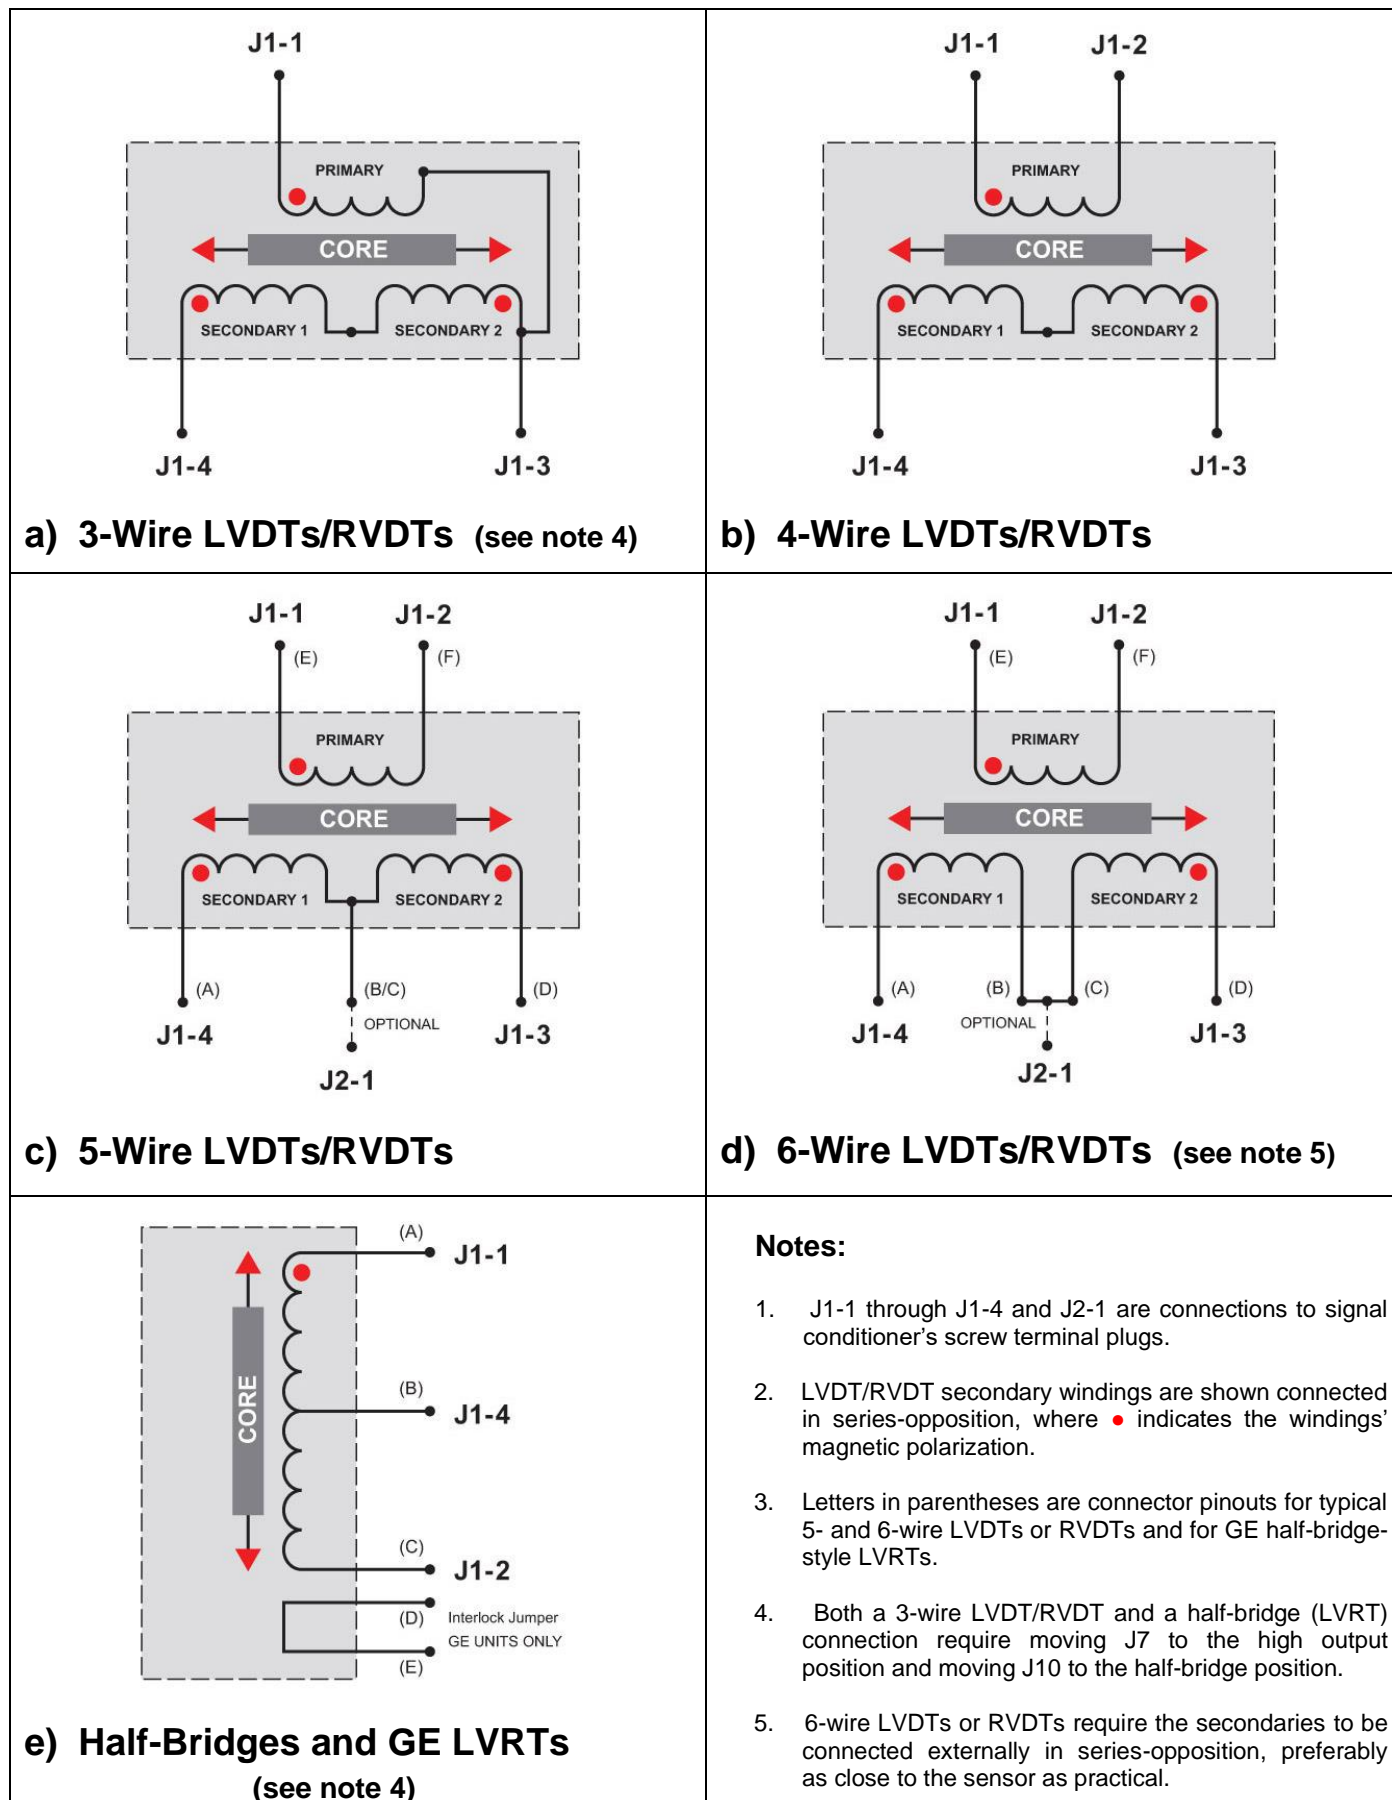

Figure 4 LVDT or RVDT and Half-Bridge (LVRT) Wiring Connections to SC-200 Signal Conditioner
4. Make the I/O connections: Following the connections on the right side label or in Table 3 on page 3, and the schematics of Figure 4 on page 4, connect the color-coded screw-terminal plugs at least to the LVDT's primary and secondaries (and the secondaries' junction point if needed), to DC power, and to the input of the PLC, control system, or analog output indicator. Never ground J1-1 or J1-2 (black plug) because that will short out part of the excitation voltage. Connections to a failure alarm or the master/slave bus can also be made at this time. When finished, insert the colored plugs completely back into their corresponding colored jacks on the module.